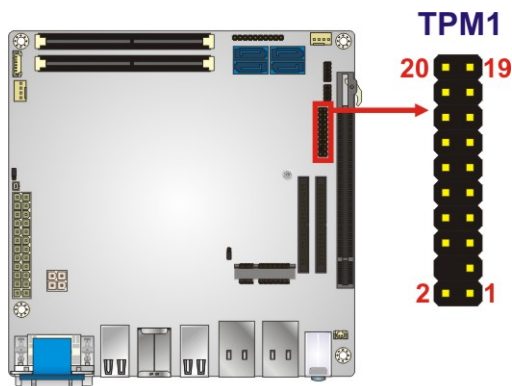

Figure 3-14: TPM Connector Location
- CN Location:** See **Figure 3-14**